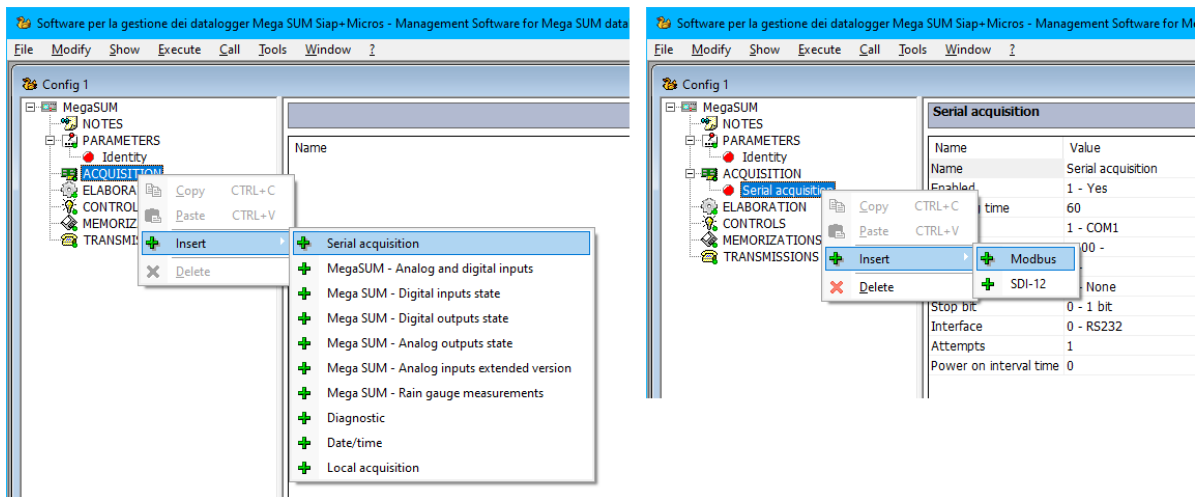

Figure 15.6: insert a serial acquisition from Modbus sensor.
- Insert a serial data acquisition activity (Figure 15.6 left).
- From serial acquisition add the measurements read from a Modbus sensor (Figure 15.6 right).